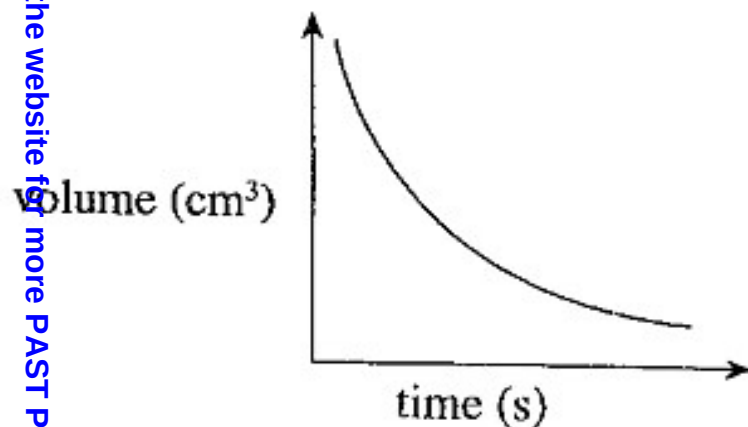

Fig 11.4a Graph of volume of sodium thiosulphate against time
- The rate of reaction is proportional to the reciprocal of time (time⁻¹). Your graphs should appear as shown in figure 11.4a and 11.4b.
- Figure 11.4a shows that *the higher the volume of the sodium thiosulphate, the less the time taken to form a precipitate.*